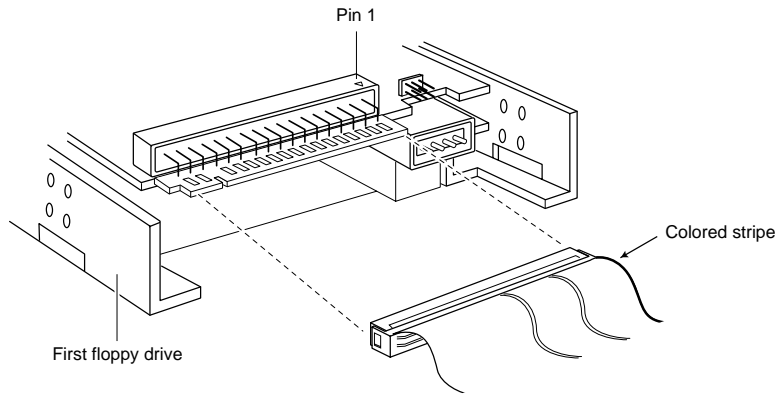

Figure 3-12. Connecting Floppy Cable to Floppy Drive
- 2 Connect the split end of the 34-pin floppy ribbon cable to the connector on the first floppy drive (A), as shown in Figure 3-12.